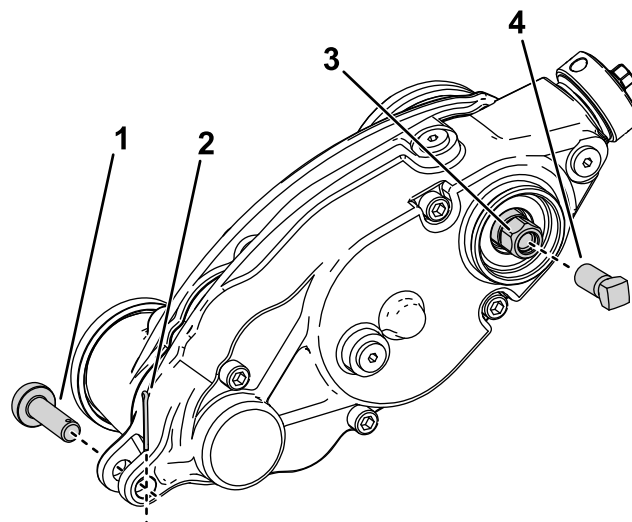

Figure 28
3. Remove the adjuster pin and cotter pin connecting the groomer drive box to the adjuster arms (Figure 28).
5. Install the reinforcement screw (Part No. 1-803022—sold separately) to the internal threads of the groomer drive hex head and torque to 13.5 N·m (120 in-lb) as shown in Figure 28.
6. Remove the groomer drive box from the cutting reel by turning the groomer drive hex-head (Figure 28).